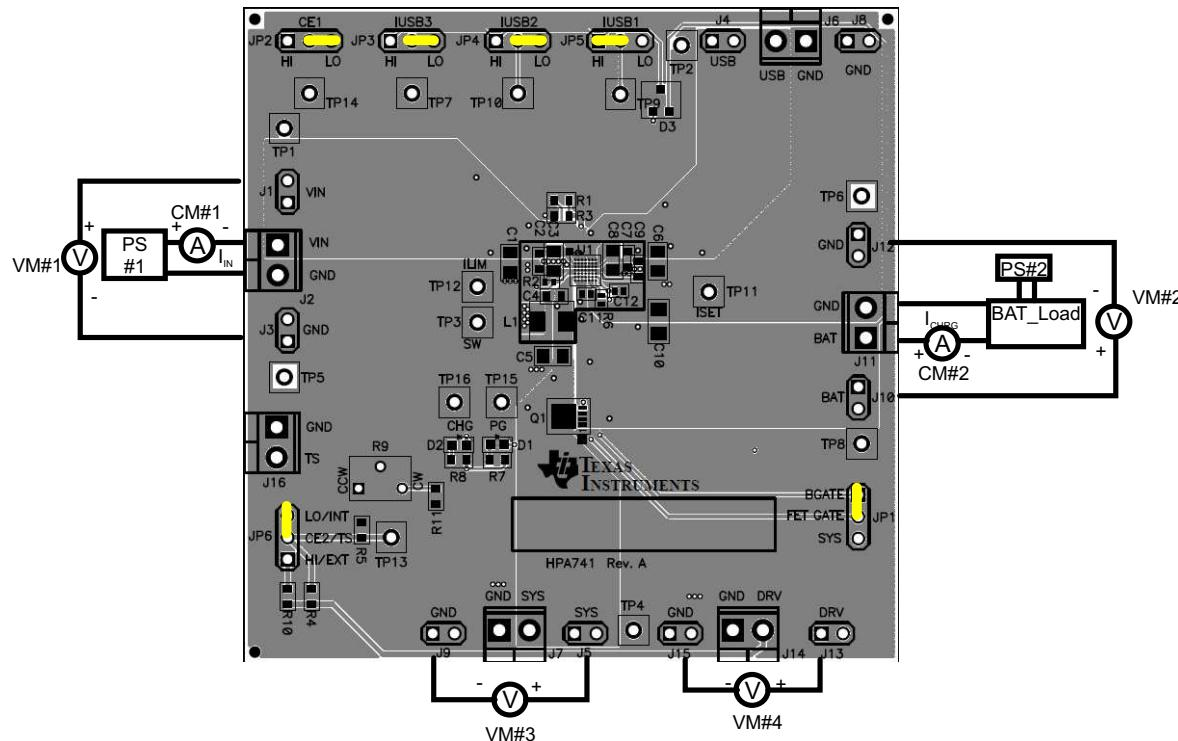

Figure 3. Original Test Setup for bq24165/166/167 EVM (HPA741)
8. After the preceding steps are accomplished, the test setup for HPA741 is as shown in Figure 3